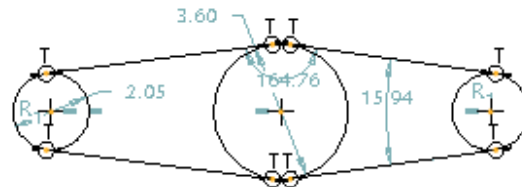

Figure 3-29 Tangent lines drawn on the circles
5. Similarly, using the **Line Tangent** tool, draw the other tangents through the bottom-most points of the left, middle, and right circles, as shown in Figure 3-29.